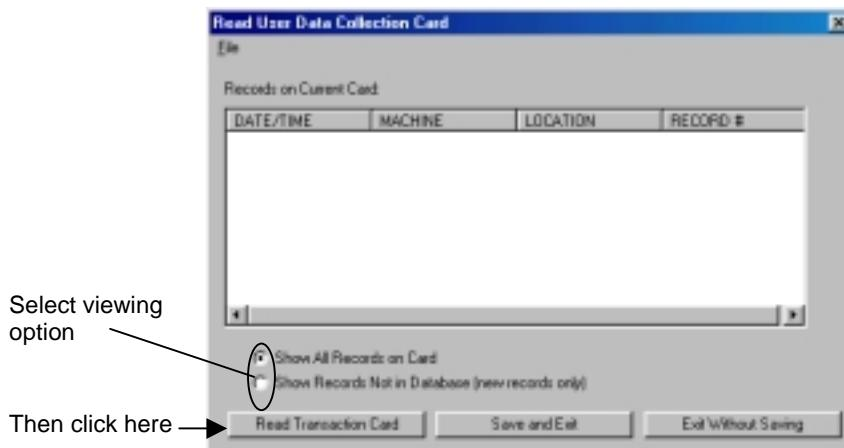

Figure 6.14 Reading the User Data Collection Card
3. Select one of the viewing options, then click the Read CTS Collection Card button (Figure 6.14).